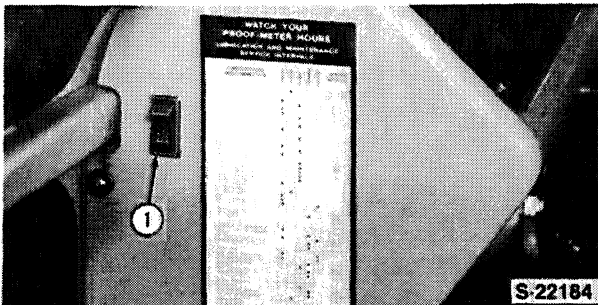

Figure 4
The entrance switch for the dome light is shown at (1), Figure 4. The key-start switch does not have to be on for the dome light to work.